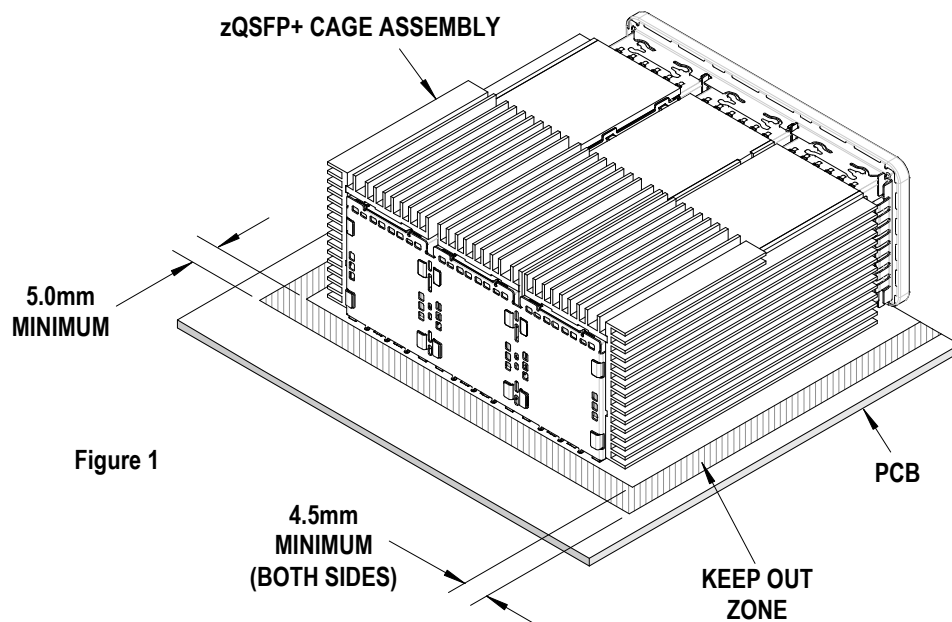

Figure 1
2. These tools require a “Keep Out Zone” around the connector free of components. The right and left sides should be 4.5mm (.17”) and the rear of the connector should be 5.0mm (.197”). See Figure 1.